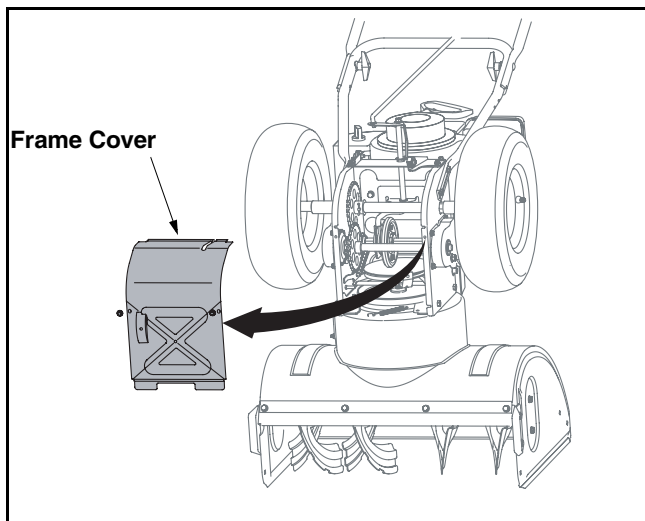

Figure 15
1. Remove the self-tapping screws from the frame cover underneath the snow thrower. Refer to Figure 15.
1. Tip the snow thrower up and forward, so that it rests on the housing. Remove the self-tapping screws from the frame cover underneath the snow thrower and move the frame cover away. See Figure 15.
3. Tip the snow thrower up and forward, so that it rests on the housing. Remove the self-tapping screws from frame cover underneath the snow thrower and move the frame cover away. Refer to Figure 15.